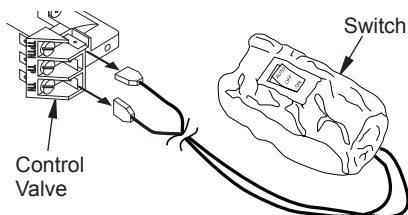

Figure 21 - Disconnecting Switch from Control Valve
7. If installed, disconnect AUTO/OFF/ON switch wire from control valve at TPTH and TH locations (see Figure 21).
9. Connect wires from hardware pack (with remote receiver bracket) to control valve at the TPTH and TH locations as shown in Figure 21. Connect other ends of these wires to remote receiver wires.